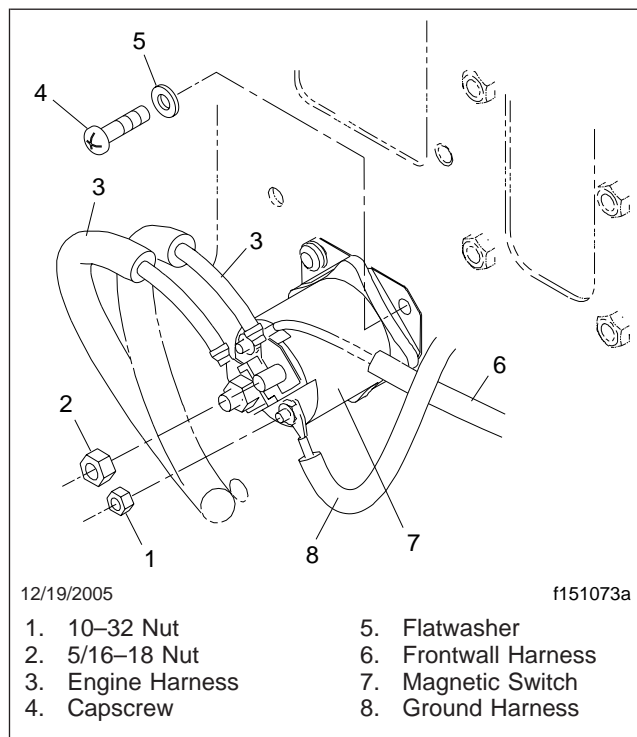

Fig. 1, Magnetic Switch
3. The magnetic switch is mounted in the engine compartment on the left side of the frontwall just inboard of, and slightly below, the Bulkhead Module (BHM). Before removing the ring terminals from the magnetic switch, mark the ring terminals for ease of installation. See Fig. 1.